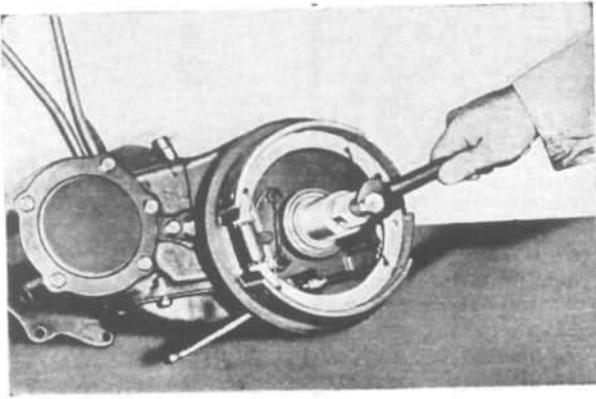

FIG. 211—OUTPUT SHAFT OIL SEAL PULLER
- c. Remove oil seal, No. 2, with Tool No. W-165 as shown in Fig. 211.
- c. Remove the oil seal with Tool No. W-165 as shown in Fig. 211.